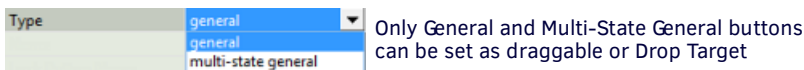

FIG. 231 TPDesign5 General Properties - Type set to "general"
2. Set the button's *Type* (General) property to **general** (FIG. 231):